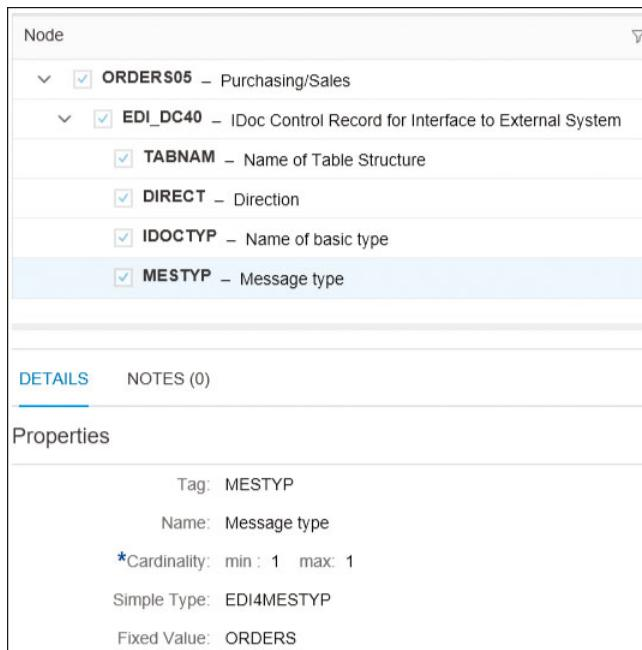

Figure 7.14 Defining a Fixed Value for the Message Type
- For fields that have fixed values in your scenario, you can define **Fixed Value** in the **Properties** section (Figure 7.14). Those values will be mapped automatically later in the MAG configuration.